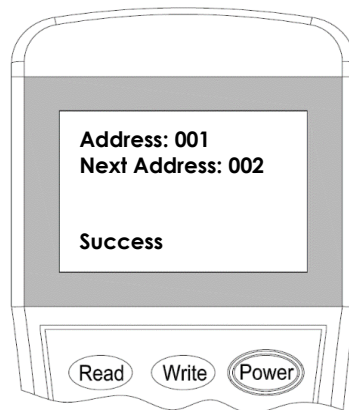

Figure 4
3. Input the desire device address value from 1 to 254, and then press **"Write"** to save the new address (Figure 4).